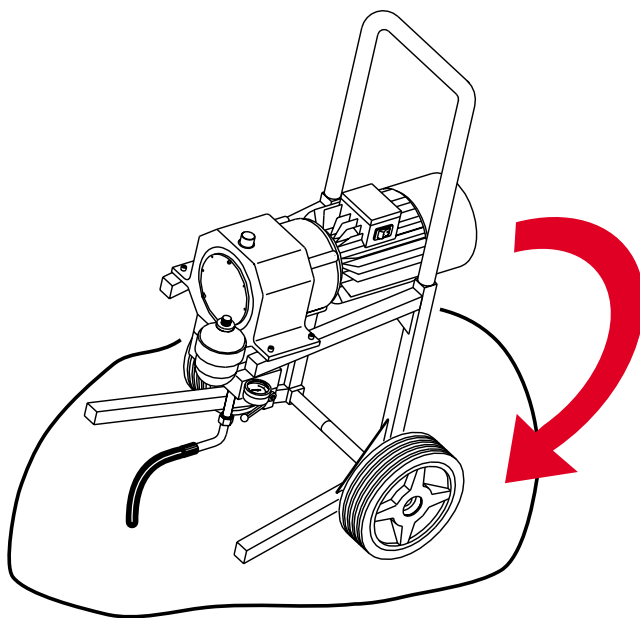

Fig.20
2) Check to make sure that the pump is in a stable position to avoid it falling (fig. 20).